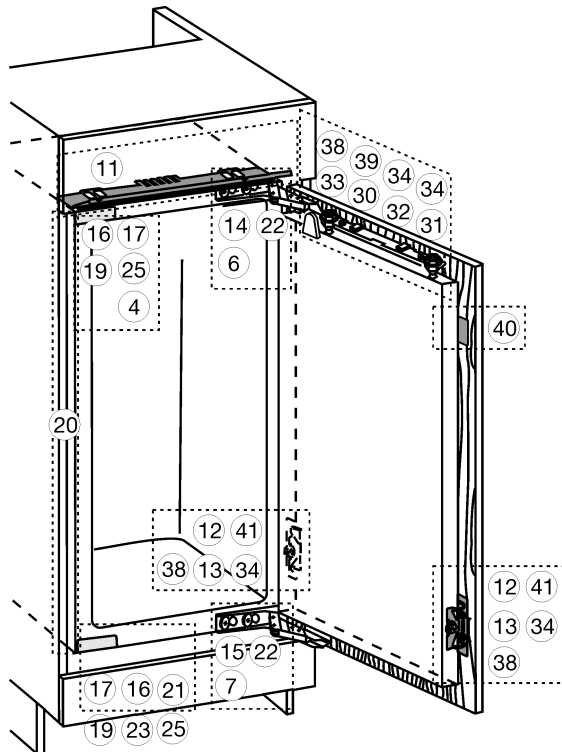
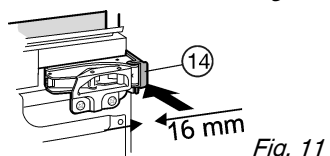
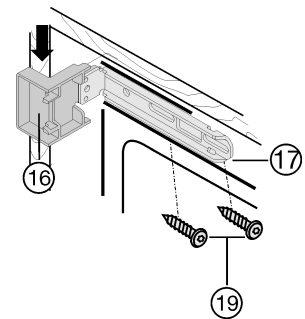
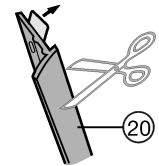

Fig. 7
Fig. 11
Fig. 12
Fig. 13
- ▶ Remove the covers Fig. 7 (4,6,7).
- ▶ Clip spacer Fig. 11 (14) and spacer Fig. 7 (15) onto the hinges.
- ▶ Attach the top cover Fig. 12 (16) and the bottom cover Fig. 12 (17) to the mounting brackets.
- ▶ Fasten the top mounting bracket Fig. 12 (17) with screws Fig. 12 (19) and the bottom one with screws Fig. 7 (19) so that the brackets can still be moved a little to the left and right.
- ▶ Strip the protective film off the cover trim Fig. 13 (20).
- ▶ Apply the cover trim Fig. 13 (20) to the projection of the cover Fig. 12 (16) on the handle side, flush with the front, and adhesively affix it to the side wall of the appliance.
- ▶ If necessary, shorten the cover strip Fig. 13 (20) at the bottom: The cover strip Fig. 13 (20) has to end 3 mm above the upper edge of the lower mounting bracket Fig. 7 (17).
- ▶ Slide in the appliance until the covers Fig. 12 (16)abut Fig. 12 against the side wall of the kitchen unit.
- ▶ Allow for the extra distance (depth of the door stop components): Allow hinges and covers Fig. 12 (16) to protrude by the extra distance.
- ▶ Vertically align the appliance by means of the height-adjustable feet, using the accompanying open-ended spanner Fig. 7 (21).